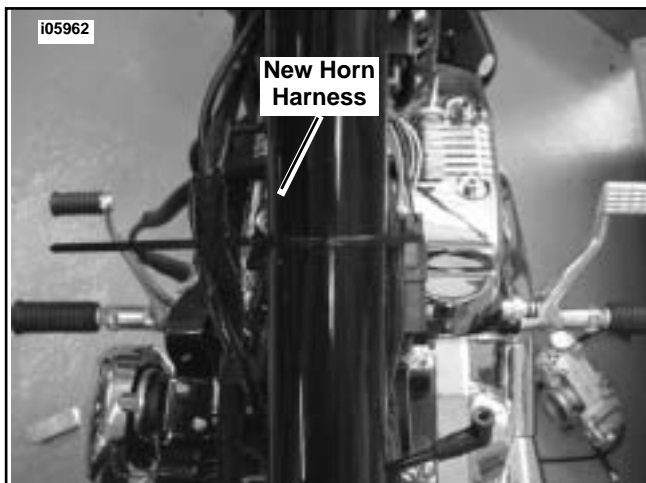

Figure 4. Route Harness to New Horn Location
9. See Figure 4. Continue routing harness toward front of bike then perform the following: